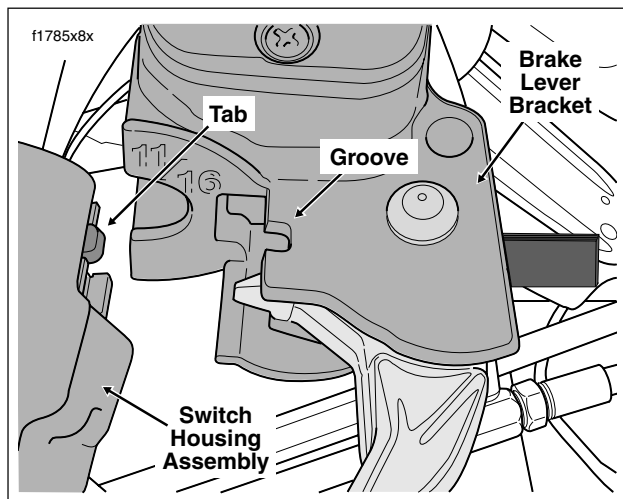

Figure 2-44. Fit Brake Lever/Master Cylinder to Right Handlebar Switch Housings
13. Position the brake lever/master cylinder assembly inboard of the switch housing assembly engaging the tab on the lower switch housing in the groove at the top of the brake lever bracket. See Figure 2-44.